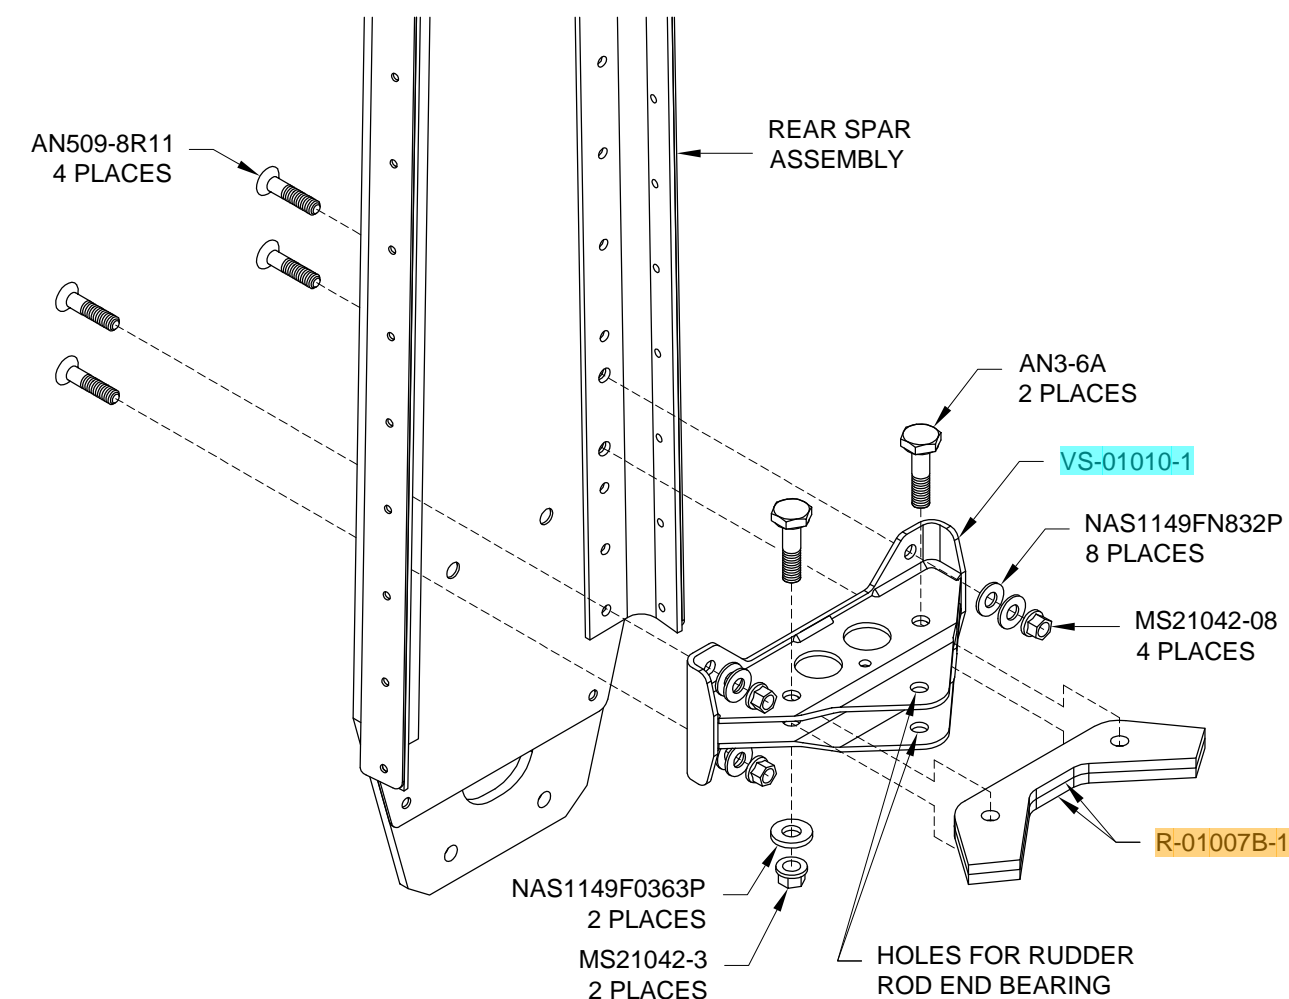

FIGURE 2: ATTACHING THE BOTTOM HINGE BRACKET AND RUDDER STOPS
Step 2: Use a #12 drill bit to clean the powder coating from the three sets of #12 holes in the **VS-01010-1** Bottom Rudder Hinge Bracket. These holes are used to bolt on the **R-01007B-1** Rudder Stops and the bottom rod end bearing of the rudder. See Figure 2.
Step 3: Heavily deburr (and straighten if necessary) the two **R-01007B-1** Rudder Stops, then bolt them in the **VS-01010-1** Bottom Rudder Hinge Bracket as shown in Figure 2.
Step 10: Attach the VS-01010-1 Bottom Rudder Hinge Bracket to the rear spar as shown on Page 6-5, Figure 2.